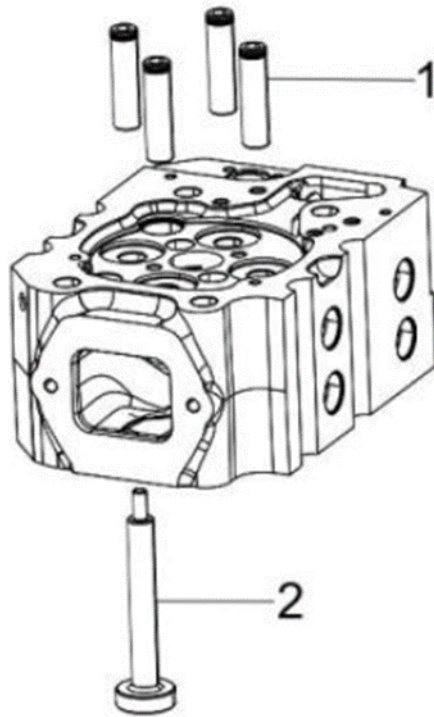

Figure 65. Cylinder Head Valve Guides
16. If the valve guides are not within specifications, use a hydraulic press to drive the valve guides (Figure 65, item 1) out of the cylinder head.